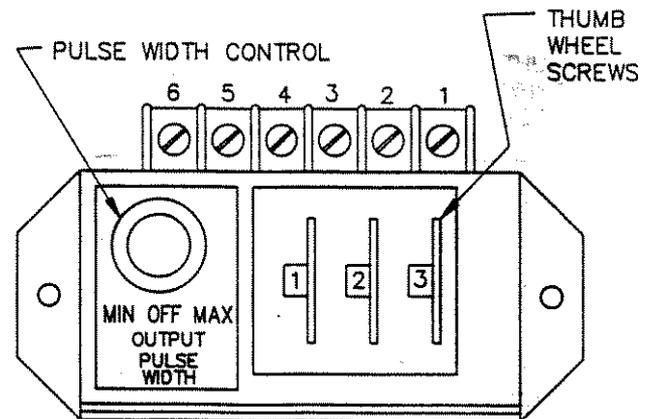

Figure 6-10
- A. Measure the voltage between terminals 1 and 2. See Figure 6-10. The voltage should be between 11.5 and 50 Vdc with terminal 1 positive.